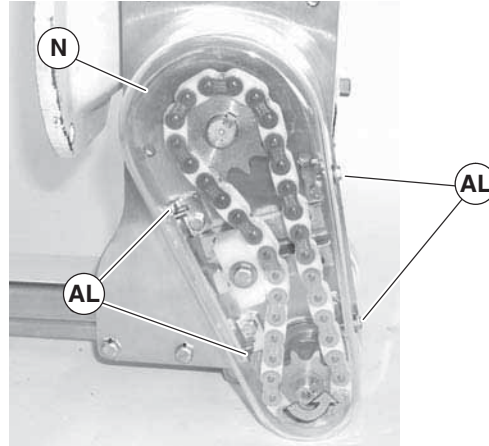

Figure 16
Do not over-tighten screws (Figure 16, item AL).
- Install cover (Figure 16, item N) and tighten four screws (AL) to 35 in-lb (4 Nm).